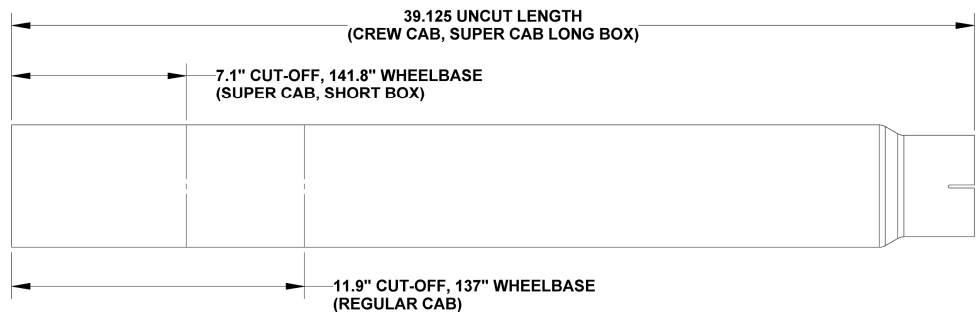

Figure 4
2. For installations on the 141.8" (super cab, short box) or 137" (regular cab) wheelbase, the **Extension Pipe** and **5" Hanger Clamp** are discarded and the **Mid Pipe** must be cut to the appropriate length. **Refer to Figure 4.**